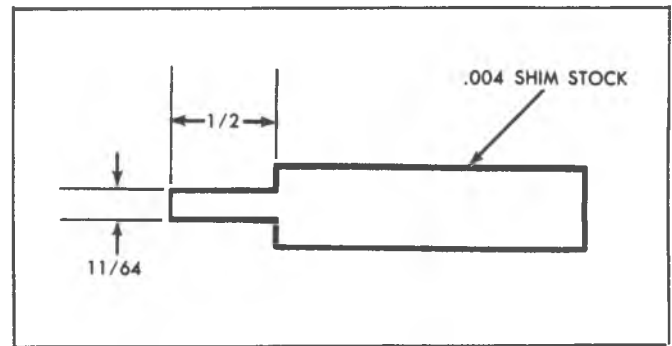

Fig. 6A4-46--Oil Seal Installation Tool
9. Measure crankshaft end play (see specifications) by forcing the crankshaft to the extreme front position. Measure at the front end of the rear main bearing with a feeler gage (fig. 6A4-45).